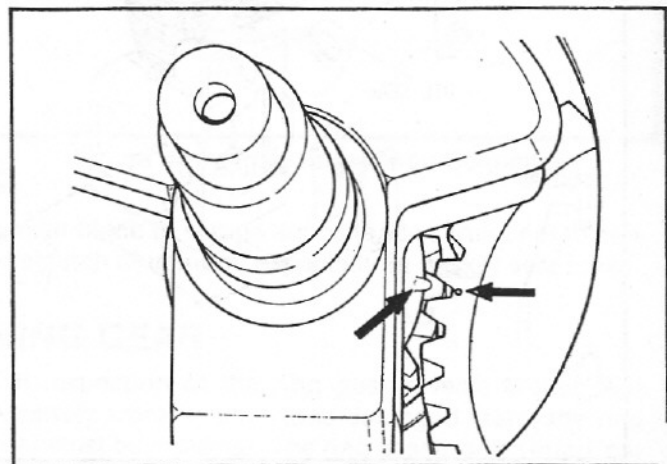

Figure 51 — Timing Marks on Crankshaft and Camshaft
- b. Turn crankshaft and camshaft until timing mark on shoulder of crankshaft lines up with mark (dot) on cam gear as shown in Figure 51.